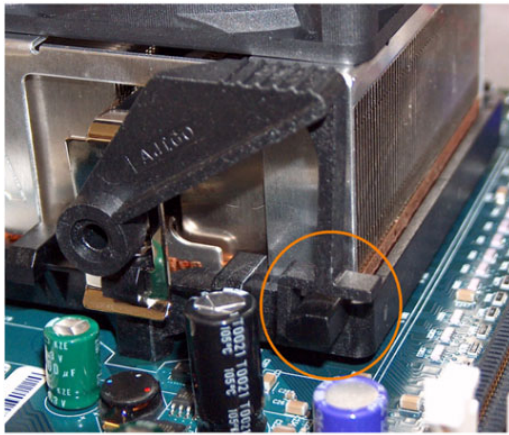

Figure 19. Cam Lever Locked into Retention Frame
20. Ensure the cam lever is locked into the retention frame. (See Figure 19.)